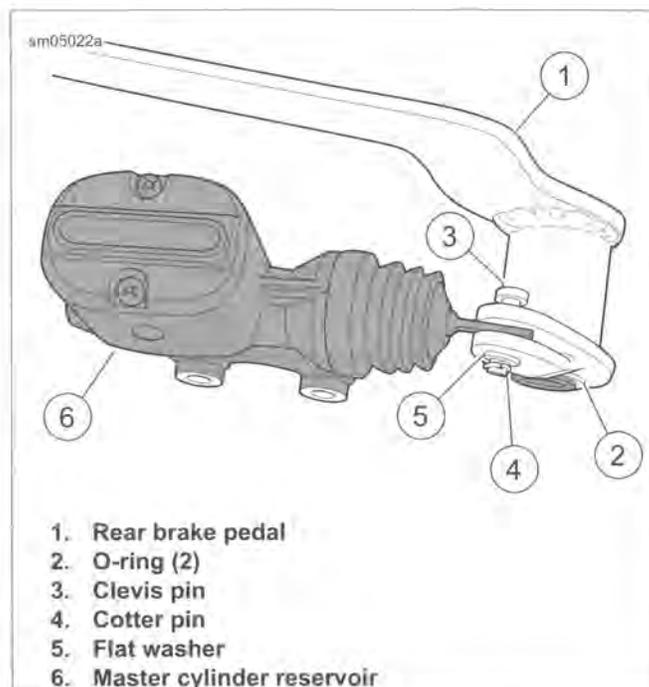

Figure 2-48. Rear Master Cylinder/Brake Pedal Assembly
9. See Figure 2-48. Remove cotter pin (4) and flat washer (5) from clevis pin. Remove clevis pin (3) to separate master cylinder assembly from brake pedal.